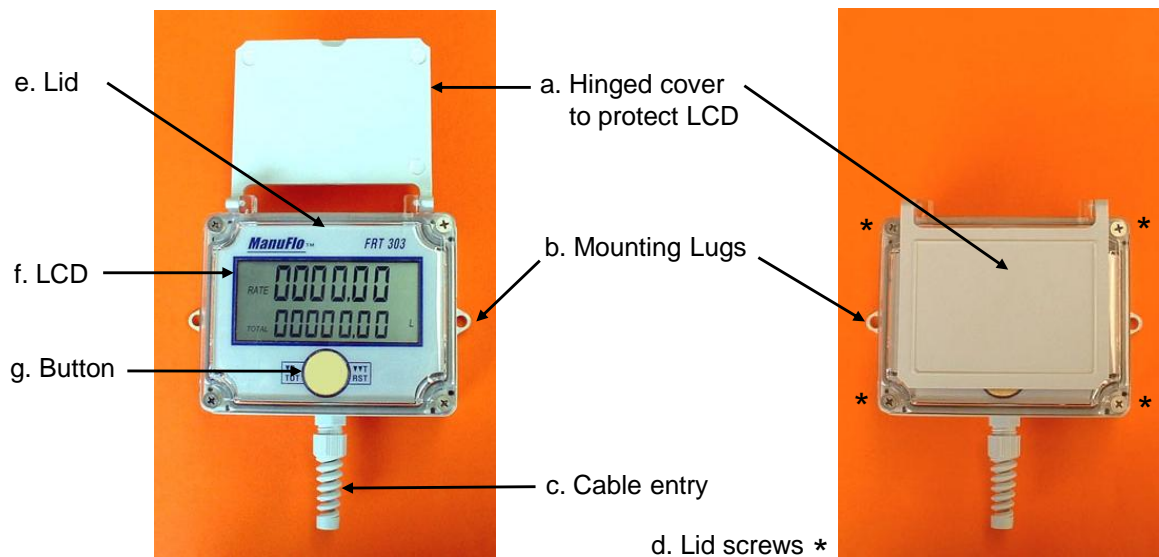

Figure 1. External view of FRT303.
The FRT is in a sealed polycarbonate enclosure with (as shown in Figure 1 below):
- a Low Battery indication will appear on the top left of the LCD (see Figure 1-f on page 3).